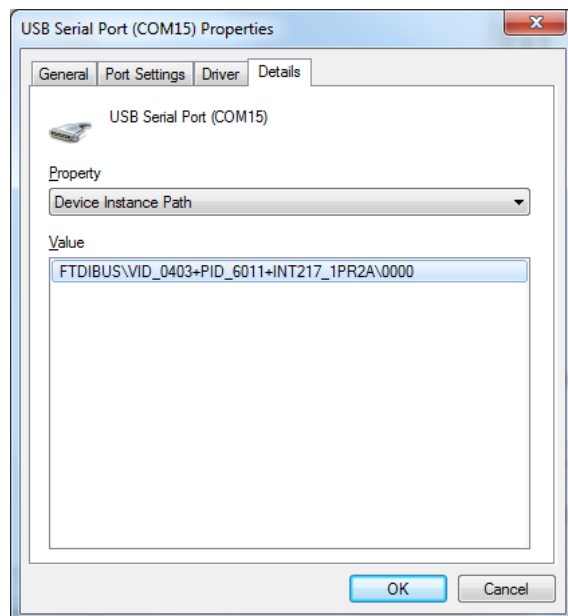

Figure 2
- c) Choose "Device Instance Path" (see Figure 2).